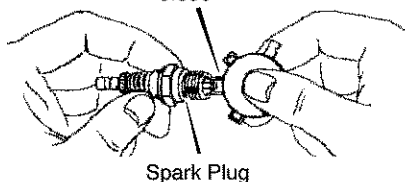

Figure 21
2. Check the **spark plug** gap with a **feeler gauge** and reset gap to 0.30" if necessary. See Figure 21.